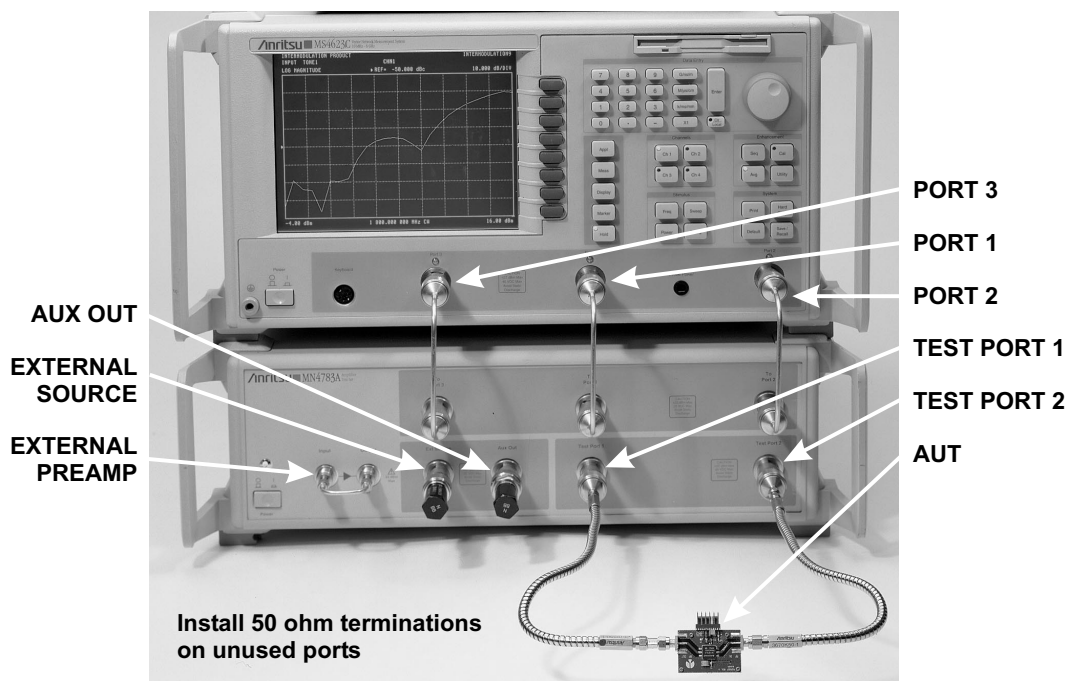

Figure 2-2. ME7840/4 Front Panel RF Cable Connections
A listing of the non-optional-accessories always supplied with the ME7840/4 is listed below. The cables and terminators are shown in Figures 2-2 and 2-3 (page 2-5).
Step 2. Install the three front RF interconnect cables. Figure 2-2 on the following page shows the installation of the RF interconnect cables between the front panel of the MS4623C and the front panel of the test set. Table 2-1 (page 2-6), lists the applicable connectors by designation or function.